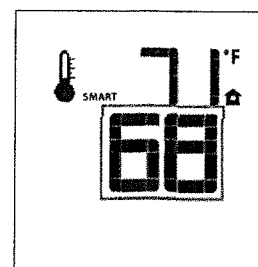

Figure 7.13 Smart Set Temp.
- To adjust the temperature, press the Up or Down Arrow Keys until the desired Set Temperature is displayed. Fig. 7.13.